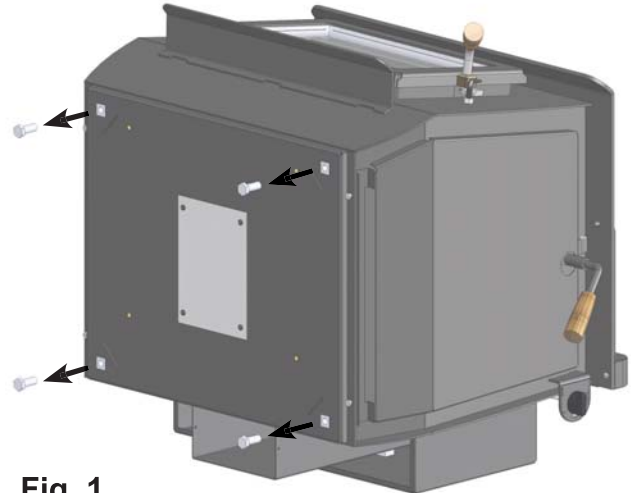

Fig. 1
The chimney must be the required height above the roof or other obstruction for safety and for proper draft operation. The requirement is that the chimney must be at least 3 feet higher than the highest point where it passes through the roof and at least 2 feet higher than the highest part of the roof or structure that is within 10 feet of the chimney, measured horizontally (**Fig. 1**).
2. Remove four 1/2" bolts from bottom pan of appliance. (see Fig. 1)